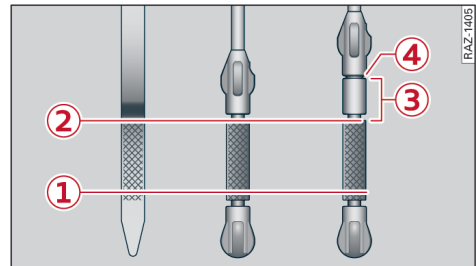

Fig. 158 Oil dipstick (examples): Checking engine oil level
Markings on oil dipstick ⇒ Fig. 158
- When topping up the engine oil, make sure that the oil level is not above the marking ② ⇒ Fig. 158, as this may result in damage to the catalytic converter or to the engine. If the oil level is above the marking ②, drive to a qualified workshop without delay to have the excess oil extracted. Avoid high engine speeds, full acceleration and heavy engine loads.
- Applies to vehicles which have an oil dipstick with area ③ ⇒ Fig. 158: If you run your vehicle on diesel of poorer quality than EN 590 standard fuel, the fuel can get into the engine oil. In this case, the oil level gradually rises and the quality of the engine oil decreases. Once the oil level has reached the marking ④ or the indicator lamp  has come on, the engine oil level must not be corrected by extracting the surplus oil – risk of engine damage! The engine oil must be changed ⇒ page 245.